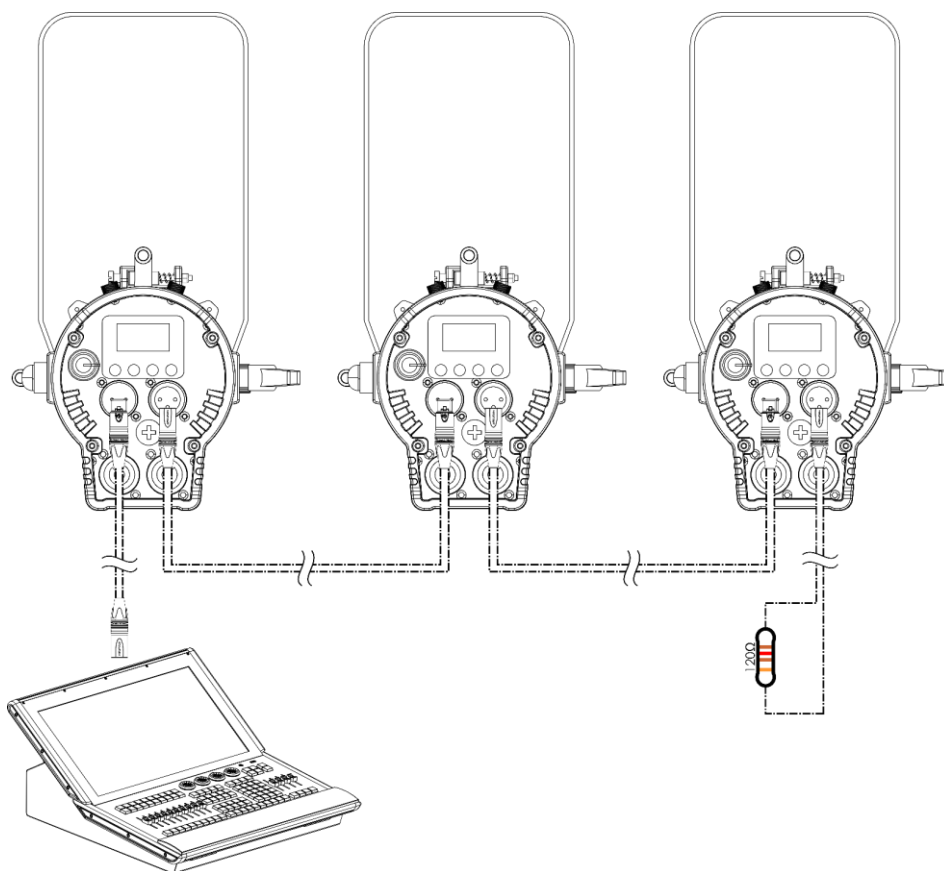

Fig. 25
- 03) Repeat step 2 to connect all devices in a daisy-chain as shown in Fig. 25.